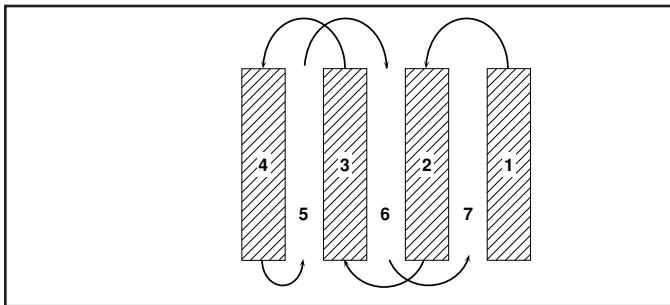

Fig. 15
- You will find tilling much easier if you leave a row untilled between passes. Then go back between tilled rows. (See Fig. 15) There are two reasons for doing this. First, wide turns are much easier to negotiate than about-faces. Second, the tiller won't be pulling itself, and you, toward the row next to it.